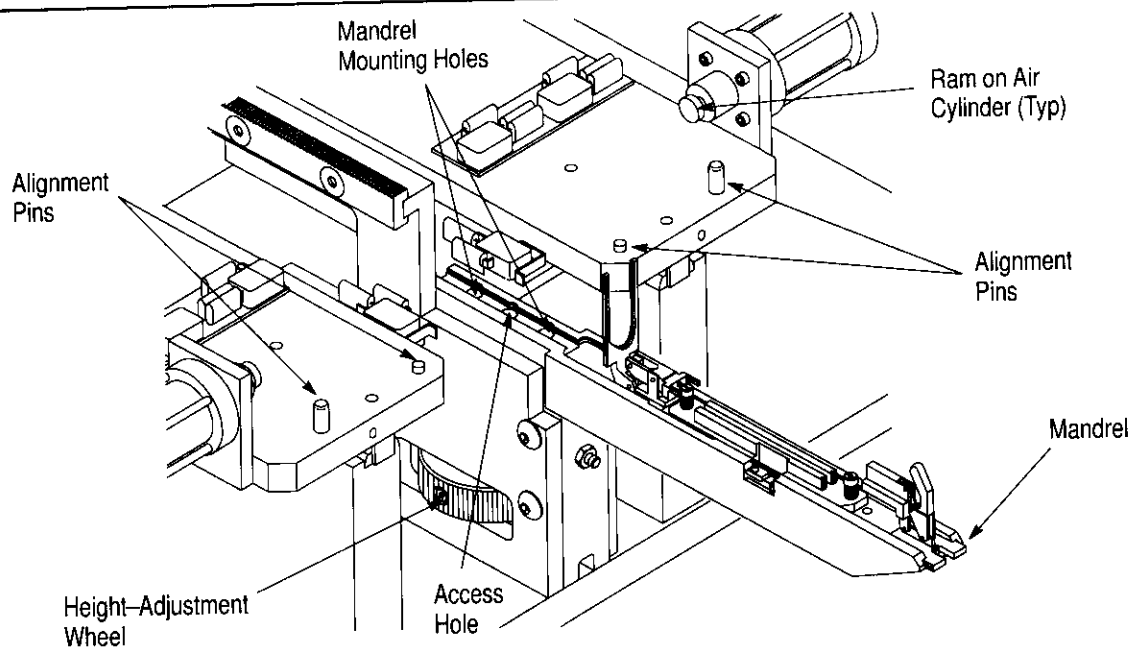
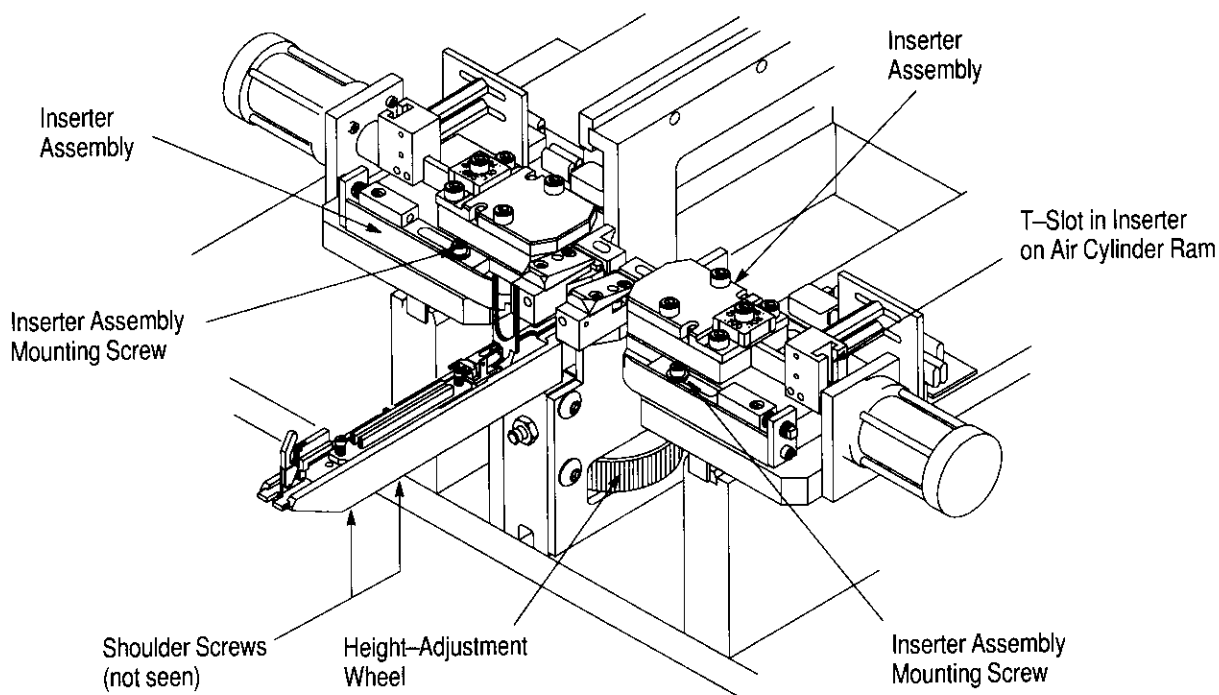

Figure 2
Figure 3
The mandrel is held in place by two hex head cap screws. Refer to Figure 2. To mount the mandrel, proceed as follows:
Each inserter is positioned with two alignment pins, and is held in place by two hex head cap screws. Refer to Figures 2 and 3. To install the inserters, proceed as follows:
2. Position each inserter so that the ram on the air cylinder engages the inserter shaft, as shown in Figure 3. Locate the inserter over the two alignment pins (refer to Figure 2).
1. Locate the locking screw, which is reached through an access hole in the back of the mandrel. Refer to Figure 2. Loosen the locking screw by turning the screw COUNTERCLOCKWISE with a 5/32-in. hex wrench.